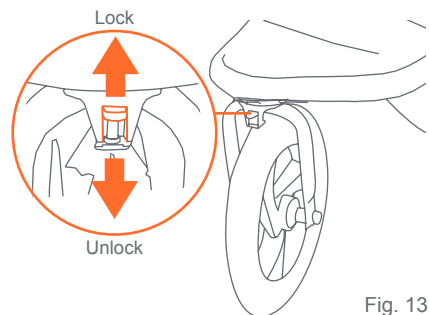

Fig. 13
- 13)** • The front wheels are equipped with a swivel locking device. Push the button on each wheel upward to engage the locks and push downward to disengage the locking device (Fig. 13).